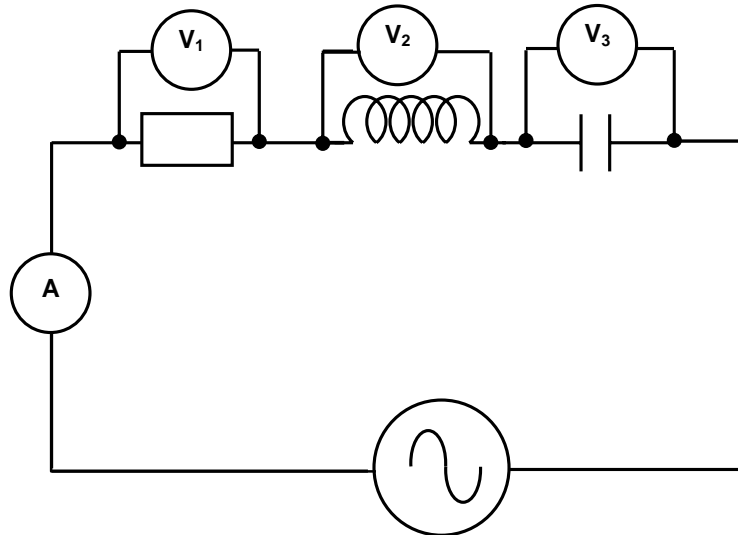

FIGURE 5.1 – RLC SERIES CIRCUIT
5.1 The circuit shown in FIGURE 5.1 is at resonance. Explain how an increase in frequency will impact on the following voltages: V_1 , V_2 and V_3 as well as on the current. Give reasons for your answers.